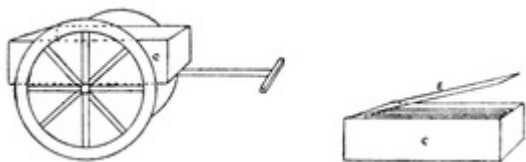

FIG. 93
The Limber (Fig. 93). This is made from a match-box (C), covered with dark grey paper and fitted with a cardboard cover E, similarly coloured.